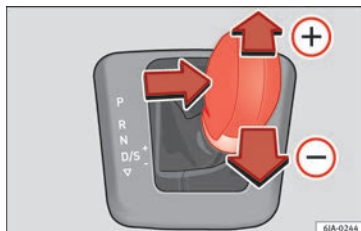

Fig. 179 Selector lever: Tiptronic.
- Push the selector lever gently forwards (+) » **Fig. 179**.
- Push the selector lever gently backwards (-) » **Fig. 179**.